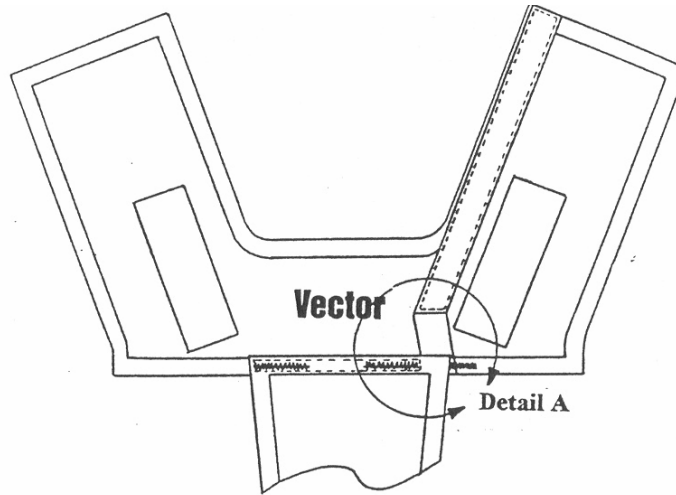

Fig. 3
Step 3. Un-pick the top right corner of the reserve top flap by 25mm (1") as shown in detail A to Fig. 3 to allow the "RSL velcro track" to be installed.
Step 4. Install the "RSL velcro track" to the RH side of the yoke as illustrated in Fig.3. *Note: The track is sewn where shown with dotted lines with an unsupported "bridge" over the cutaway housing.* Fold the velcro/tape under where shown so the "velcro track" ends up under the corner of the top flap. Narrower Vectors will require a sharp bend with the wider models requiring less of a bend. See detail A Fig.3.
Step 5. Bar tack (or zig-zag) the end of the bridge under the reserve top flap as illustrated in detail A to Fig.3. Trim off excess length. At the same time bar tack (or zig-zag) top corner of the reserve top flap 15mm (5/8") back from the corner. Restore 301 stitching where shown.
Detail A, Fig. 3